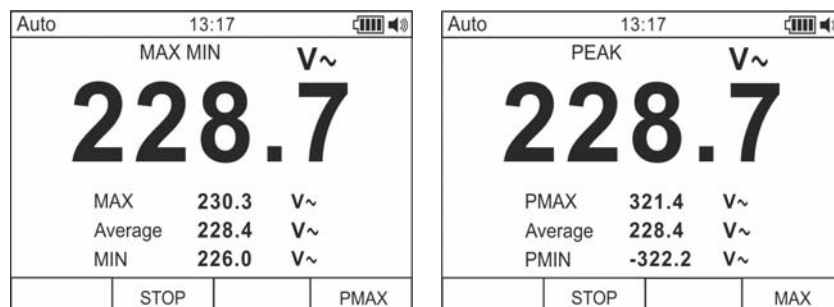

Fig. 7: Saving PEAK values
5. Press the **F4** key to enter the measuring mode of Peak values of the quantity to be measured (see Fig. 7 – right side). The message “PEAK” appears on the display and the values are updated in the same way as for the MAX/MIN function.